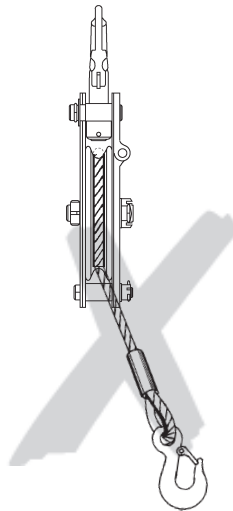

Fig. 3
- Side pull, i. e. side loading of the housing and/or the hook (Fig. 3) is forbidden.